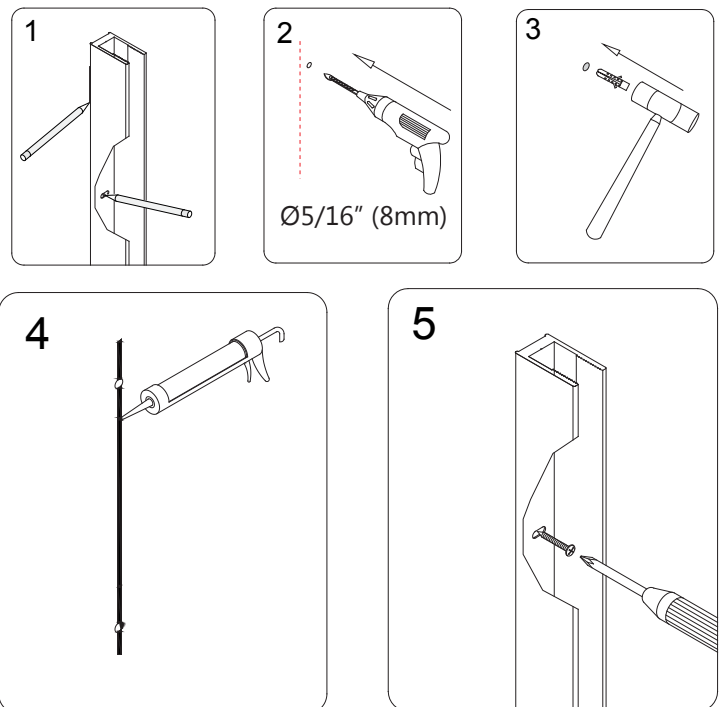

Fig 6
6. Mark the **Wall Profile/U-Channel (#17)** position on the wall and also mark the hole locations for drilling. Remove the **Wall Profile/U-Channel (#17)** and drill **Ø5/16" (6mm)** holes into the wall. Insert the **Wall Anchors (#06)**. Apply a bead of silicone to the wall or to the back of the **Wall Profile/U-Channel (#17)**. Attach the **Wall Profile/U-Channel (#17)** to the wall using the **ST4.2 x 40 screws (#07)**. **(Fig 6)**